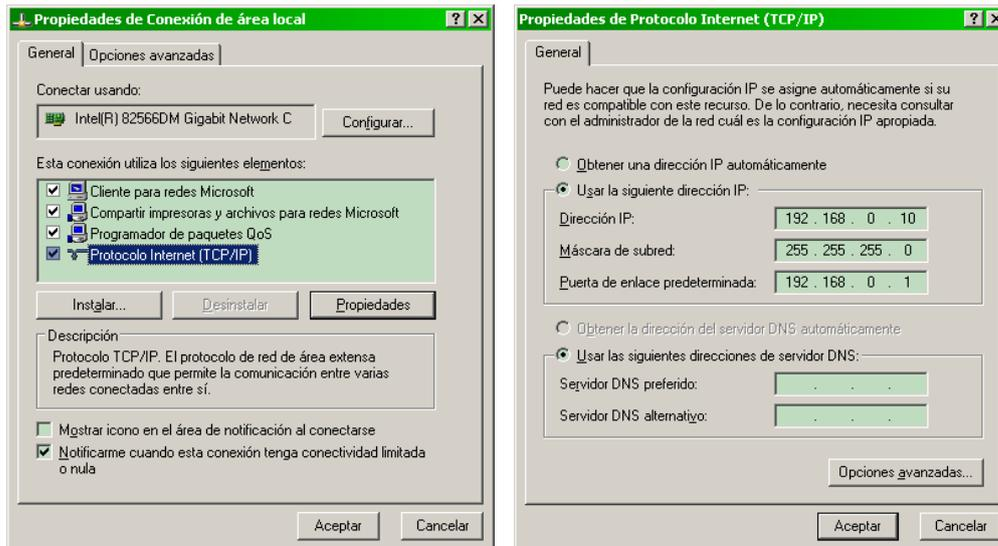

Figure 1
- Computer (PC) with a network card, Ethernet and DANTE Controller installed.
- Select "Use the following IP address:", check that the network settings are "IP Address: 192.168.0.10", Subnet Mask: 255.255.255.0", "Gateway: 192.168.0.1", and click "OK" according to figure 1. Otherwise modify.